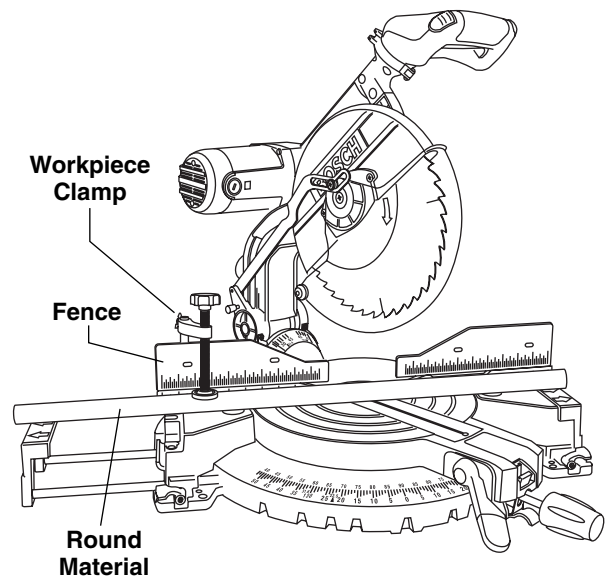

Figure 2. Round Material
**WARNING** For round material such as dowel rods or tubing, always use a clamp or a fixture designed to clamp the workpiece firmly against the fence and table. Rods have a tendency to roll while being cut, causing the blade to "bite" and pull the work with your hand into the blade (Figure 2).